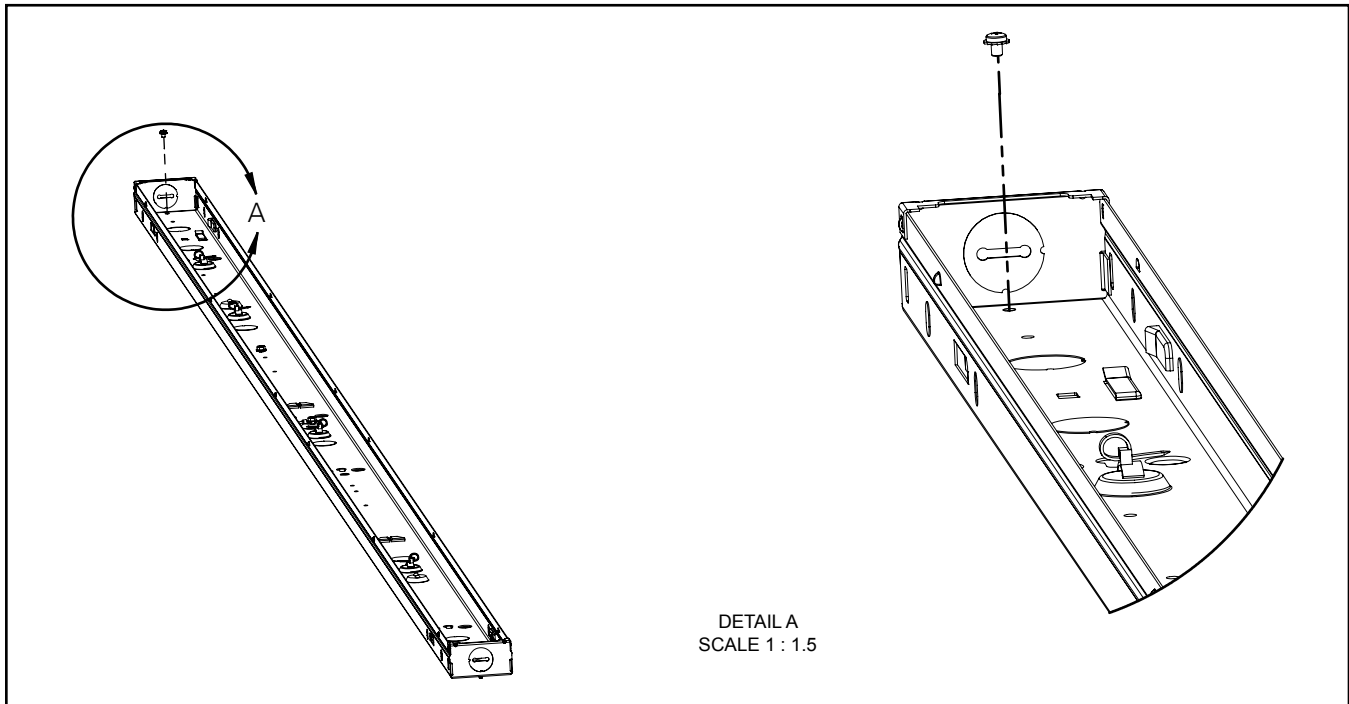

Figure 2
- Use a Philips head screw driver to unfasten screw holding the metal endcap (Figure 2). Then squeeze the channel and pull to remove the metal endcap.